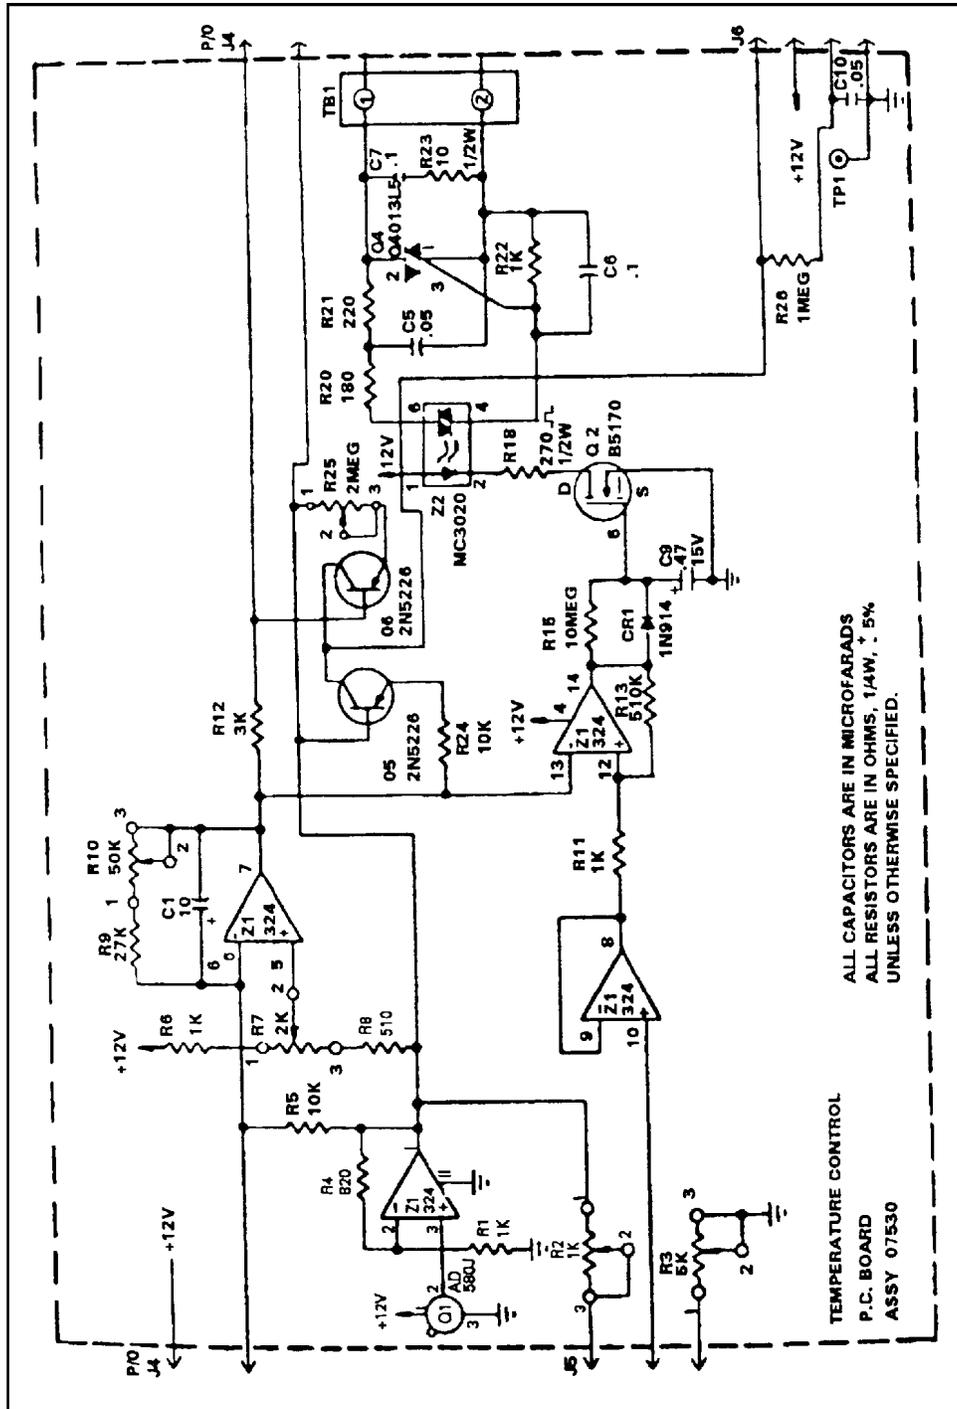

Figure 3-39
- (1) Check for an imbalance before 1000 rpm.
- (2) If the imbalance does not occur, adjust potentiometer R18 counterclockwise until the imbalance is tripped.
- f. Turn the power switch to the on position and adjust potentiometer R10 on the temperature control PC board until the thermometer and the temperature sensor have the same reading,  $\pm 1^{\circ}\text{C}$ . (See Figure 3-39.)
- i. Adjust potentiometer R7 on the temperature control PC board until the thermometer and the temperature sensor have the same reading  $\pm 1^{\circ}\text{C}$ . (See Figure 3-39.)
h. Verify the under temperature is functioning by momentarily unplugging the temperature sensor J11/P11. (See Figure 3-39.) The fault light should turn on.